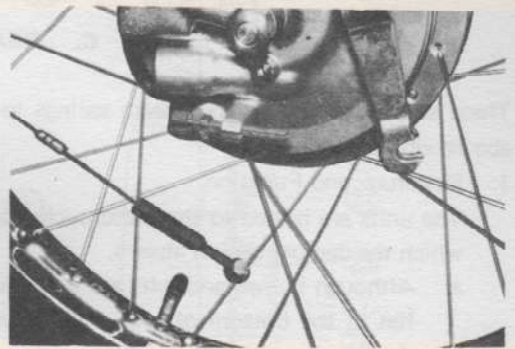

Fig. 4-3
2. Take off the brake cable from the front wheel. (Fig. 4-3)